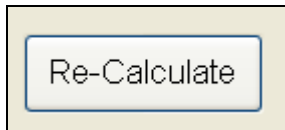

Figure 16.1.16A
- Click on the **Re-Calculate** button (Figure 16.1.16A).